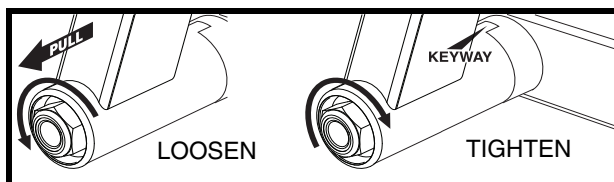

Figure 9A. Pivot Weldment
1. Pull the pivot weldment out to disengage keyway. You may need to loosen the pivot nut with a 3/4-in. socket wrench. See figure 9A.
3. Ensure the keyway is engaged then tighten the pivot nut if previously loosened. See figure 9A.